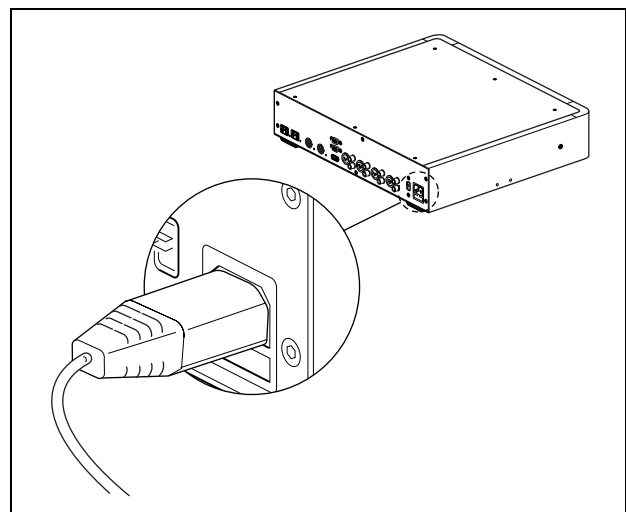

figure 10.4: Power supply
- 3 Connect a locally approved power cable to the central control unit (refer to figure 10.4).